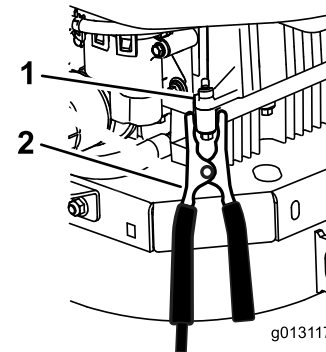

Figure 69
6. Make the final connection on the engine block of the stalled machine (not to the negative battery post), away from the battery, and stand back (Figure 69).